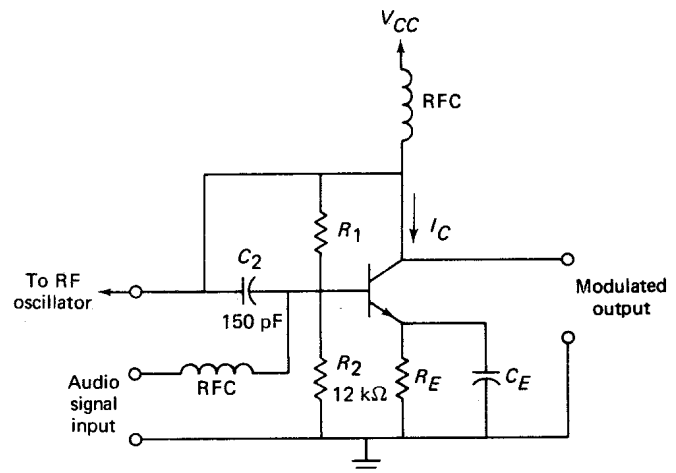

Fig. 4-13
- 4.15 The transistor reactance modulator shown in Fig. 4-13 is to be used in an FM transmitter. The input resistance of the transistor  $h_{ie}$ , is  $600 \Omega$  and the beta of the transistor is 65.
Substituting (values for  $C_2$  and  $R_2$  are taken from Fig. 4-13),